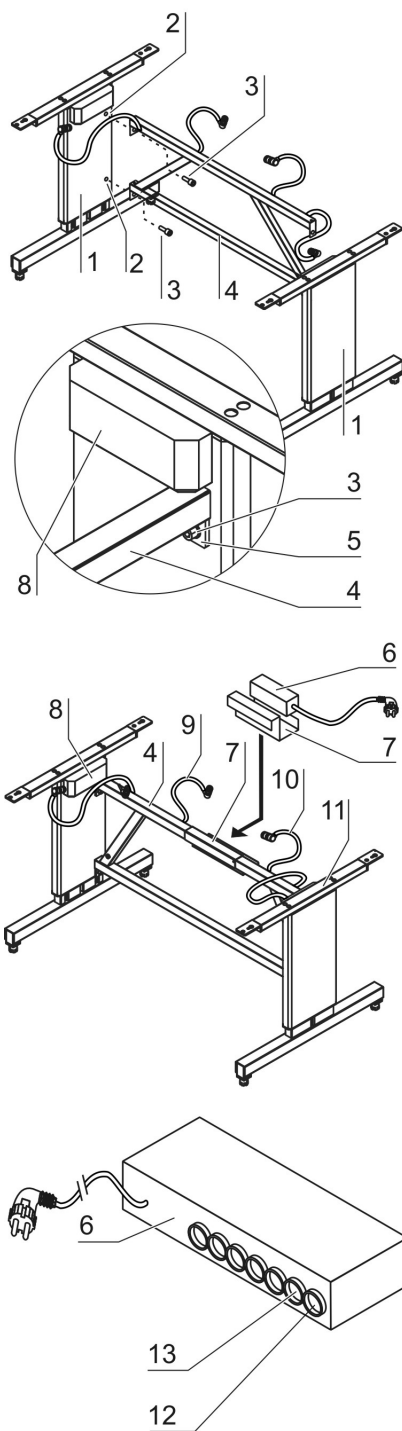

Figure 7. Assembling the electric rack
Figure 7: The height of the electrically height-adjustable rack [10] can be set within a range of 680-880 mm. Both side-members [1] have their own electromagnetic drive [8] that is controlled by the synchronizer module [6].
1. **Figure 7:** Connect the crossbars [4] with the two side frames [1]. To do so, set the fastening brackets [5] of the crossbars at the threaded holes of the side frames and screw in the fastening screws [3].